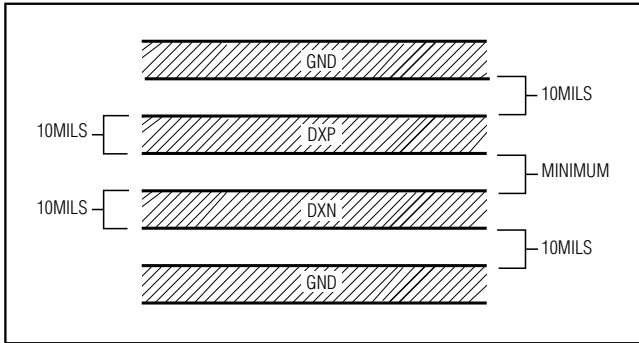

Figure 4. Recommended DXP-DXN PC Traces
- 3) Route the DXP and DXN traces in parallel and in close proximity to each other, away from any higher voltage traces, such as 12VDC. Leakage currents from PCB contamination must be dealt with carefully since a 20MΩ leakage path from DXP to ground causes about 1°C error. If high-voltage traces are unavoidable, connect guard traces to GND on either side of the DXP-DXN traces (Figure 4).
- 6) Use wide traces. Narrow traces are more inductive and tend to pick up radiated noise. The 10mil widths and spacing recommended in Figure 4 are not absolutely necessary, as they offer only a minor improvement in leakage and noise over narrow traces. Use wider traces when practical.